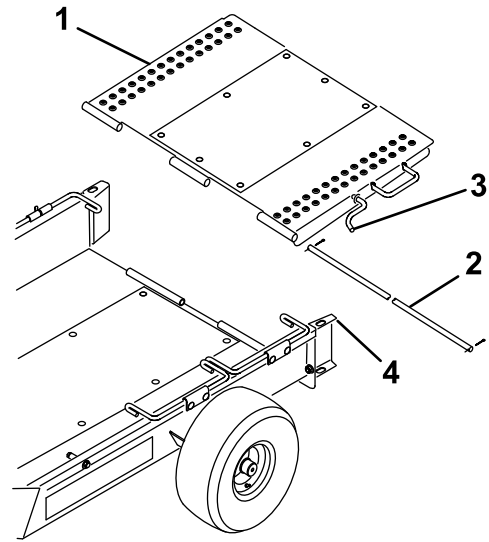

Figure 3
5. Mount the trailer ramp to the rear of the trailer bed with the hinge rod and 2 cotter pins (Figure 3).
6. Pivot the trailer ramp upward and hook the ramp latch into the hole in the top of the wheel guide (Figure 3).
8. Pivot the trailer ramp upward and hook the ramp latch into the hole in the top of the wheel guide (Figure 3).